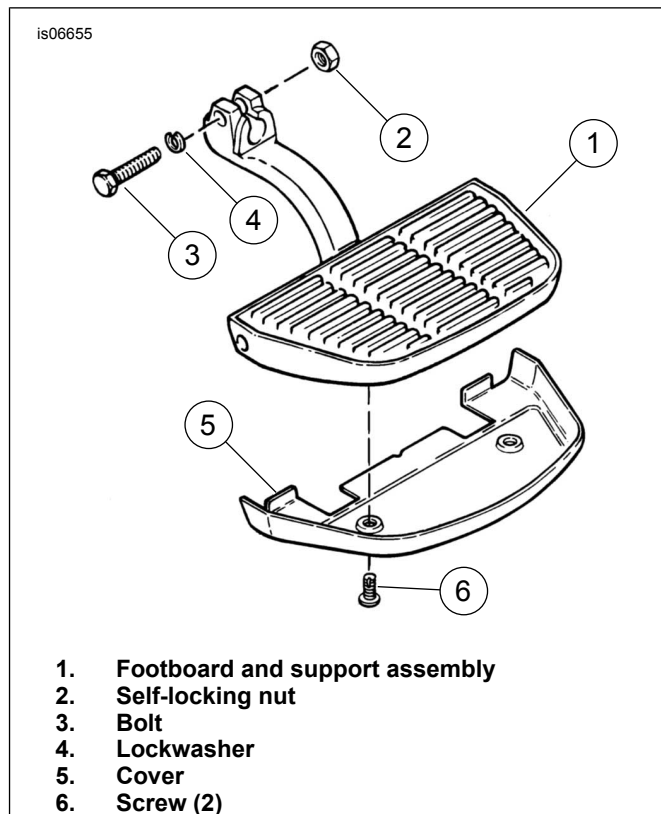
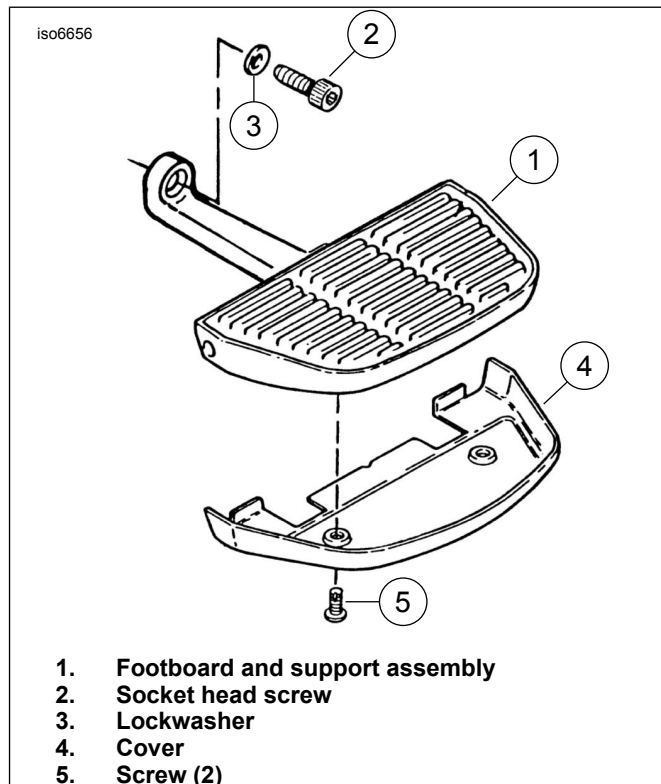

Figure 1. Passenger Footboard Assembly - 1992 and Earlier Models and Accessory Footboards
Figure 2. Passenger Footboard Assembly - 1993 and Later Touring Models
- a. **1992 and Earlier Models and Accessory Footboards:** See Figure 1. Remove each passenger footboard and support assembly (1) from the mounting studs on the motorcycle. Depending on the type of footboard support, this will require either removal of self-locking nut (2) and bolt (3), or removal of a bolt (3) and lock washer (4) from the footboard support split hubs. Save all hardware for installation.
- b. **1993 and Later Touring Models:** See Figure 2. Remove each passenger footboard and support assembly (1) from the mounting studs on the motorcycle. This will require removing the socket-head screw (2) and lockwasher (3) from the footboard supports. Save all hardware for installation.
3. See Figure 1 and Figure 2. Remove any covers that may be already installed on the footboards.